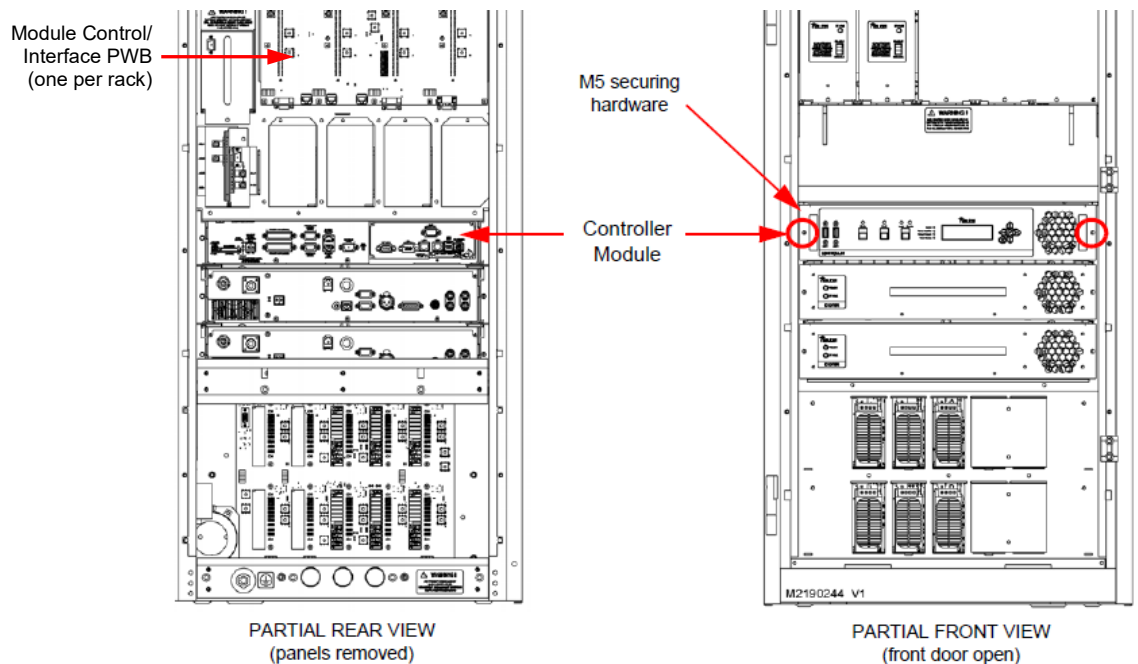

Figure 6: Front and rear view of the transmitter (GV5 shown as reference)
- (b) Set the transmitter to its **RF Off** state. From the rear of the transmitter, remove the upper rear panel to gain access to the module control/interface PWB (see Figure 6 for reference), noting there is one PWB per rack in the transmitter.
- (c) From the front of the transmitter, open the front door (left most for multi-door transmitters) and remove and retain the two (2) M5 Phillips head screws that secure the controller to the transmitter (see Figure 6). Remove the controller from the transmitter.